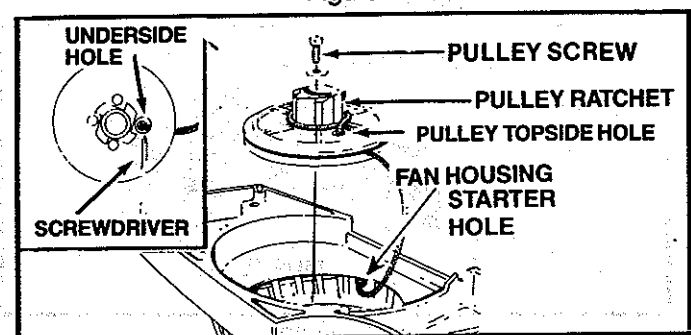

Figure 43
- Remove the pulley screw in the center of the pulley. Figure 43.
- Feed the rope through the round starter hole in the fan housing. Figure 43.
- Snake rope inside pulley, then through topside pulley hole by pushing the rope from the underside hole with a small round object, such as a Phillips screwdriver. See insert. Figure 43.
11. Wrap rope counterclockwise  around pulley ratchet and tuck loose end back under rope leaving a 3/8-1/2 inch tail. Pull tightly around ratchet. Figure 43.
15. Pull out 12 inches of rope and catch the rope in the notch in the pulley. Figure 43.